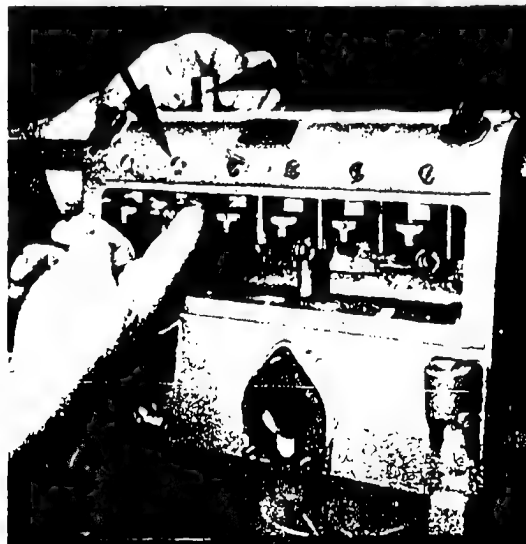
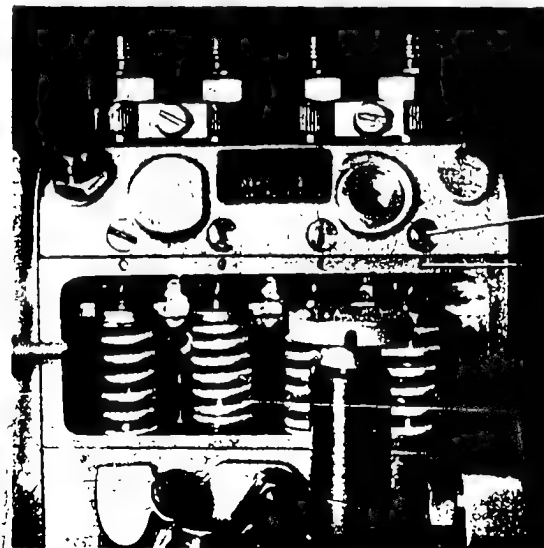
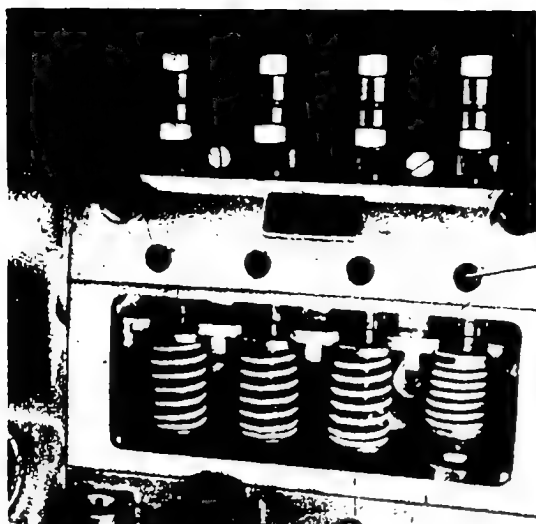
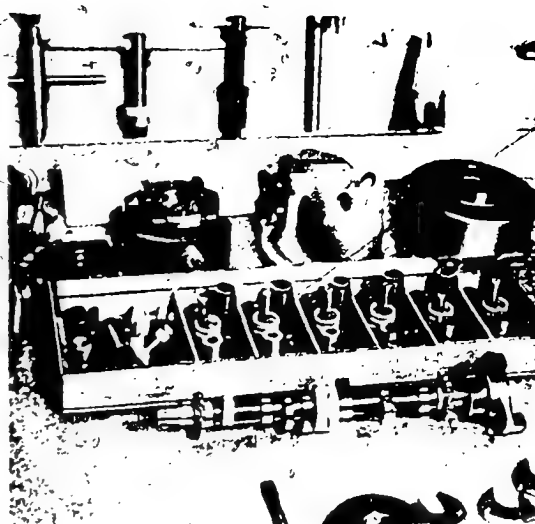

Fig 30 Lift out pump barrel on size B. Barrel-locating pin removed
Fig 31 Pump type A with baffle screw
Fig 32 Pump type B
Fig 33 Deposit barrels on depositing board
locking screw. Unscrew locking screw (63) with its joint washer (64) and lift pump barrel off upwards (Fig. 30). In individual cases on pumps type B, this locking screw is also developed as a baffle screw. Do not confuse baffle screws on type A pumps (Fig. 31) with locking screws on type B pumps (Fig. 32). Baffle screws on pumps type A need not be removed from the pump housing when dismantling the pump. Unless barrels are numbered, special precautions should be taken against mixing them up. Deposit barrels on depositing board (Fig. 33).